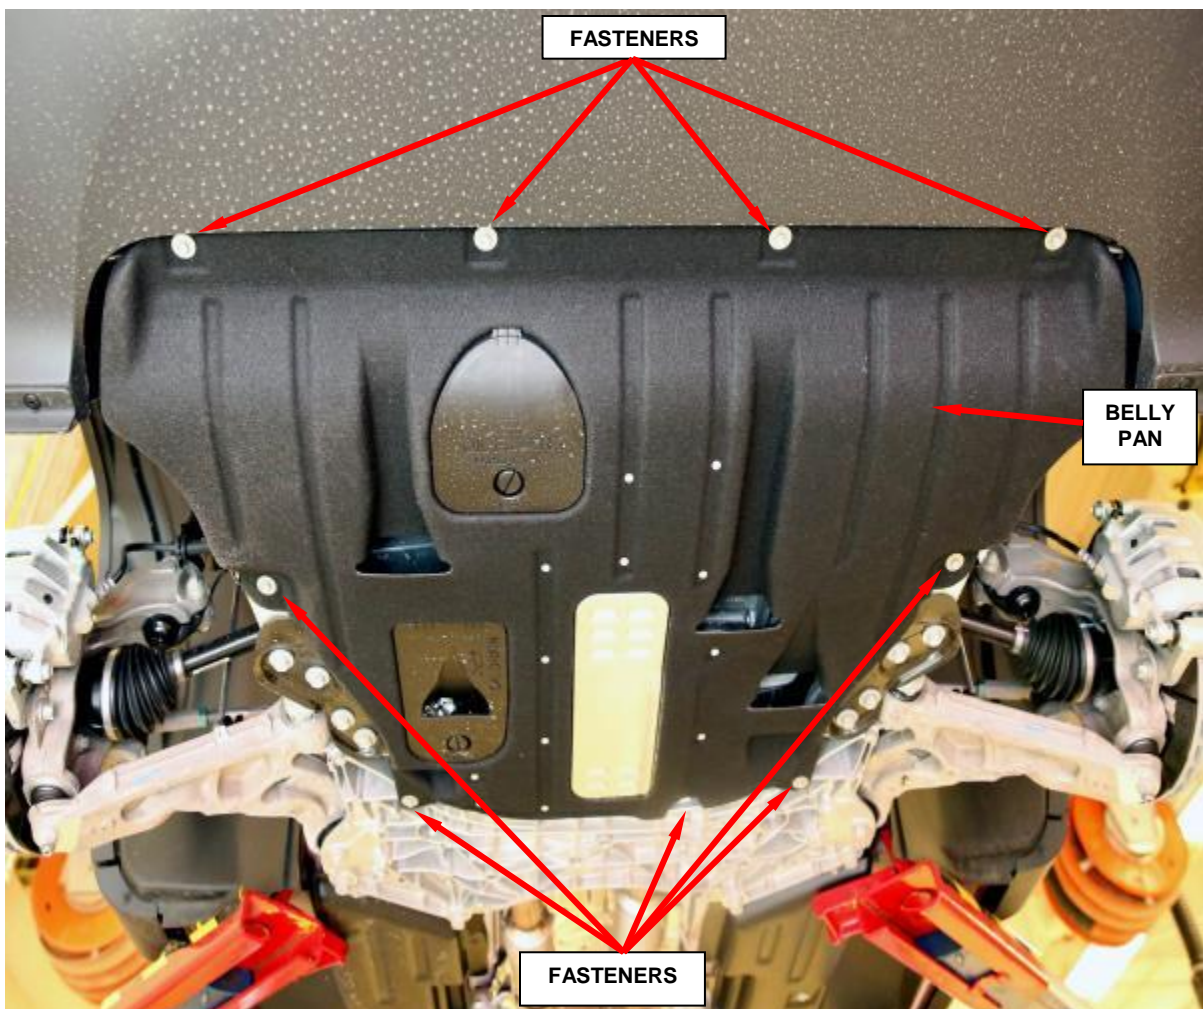

Figure 2 – Belly Pan
5. Remove and save the nine engine belly pan fasteners and remove the belly pan, if equipped (Figure 2).
20. If equipped, install the engine belly pan and tighten the fasteners securely (Figure 2).